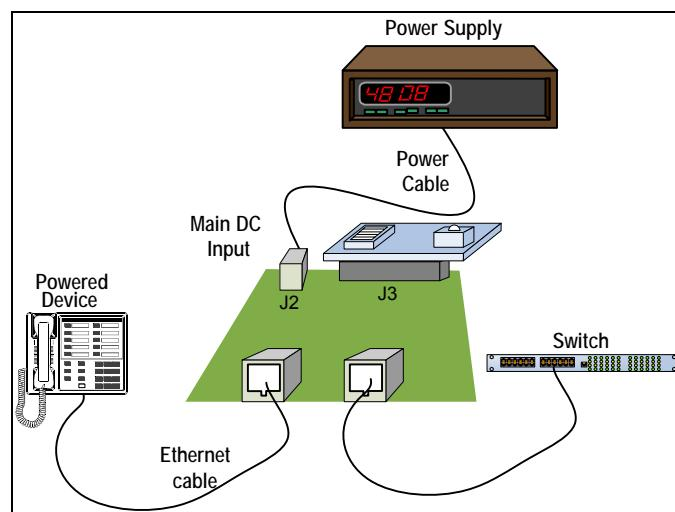

Figure 9: Test Setup
**Note:** It is important to verify that the Evaluation Board is setup as shown in Figure 9 prior to starting any operation.